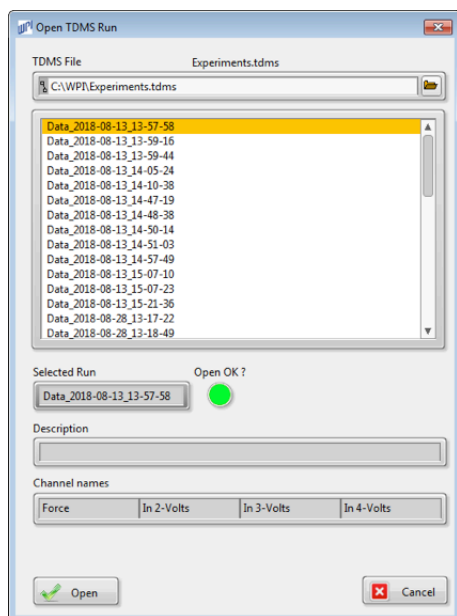

Fig. 62—The *Open TDMS Run* window allows you to select a file for analysis.
2. The main section of the window displays the data runs saved in that folder (Fig. 62). To open another folder location, click on the **Browse** button  to the right of the **TDMS file** text box. On the next window, browse the computer to locate and highlight the required folder. Click the **OK** button to open it.